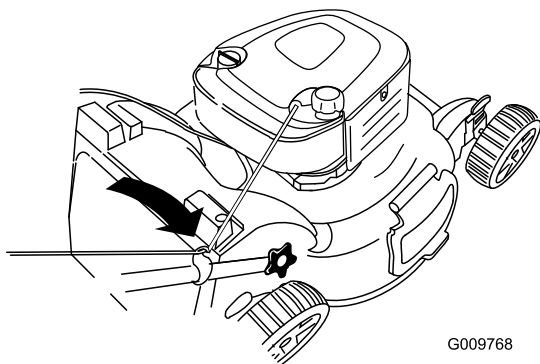

Figure 30
2. Route the starter rope around the lower-rope guide (Figure 30).